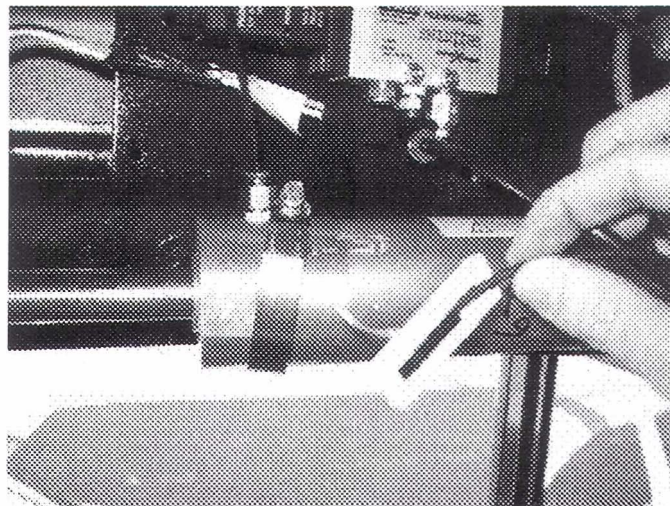

**Figure 3**
3. Locate the entrance door position switch clamped to the air actuator. **Figure 3**